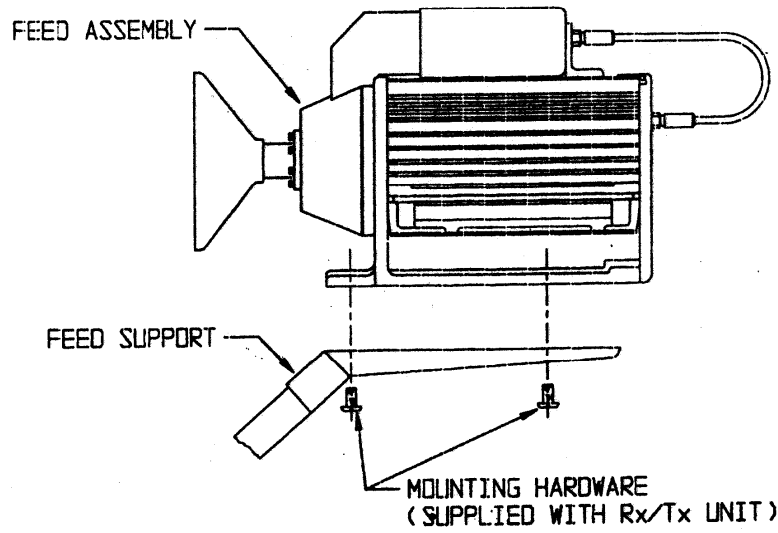

FIGURE 2
Step 2: Attach the completed feed assembly from step #1 to the matching holes in the feed support with the hardware provided with the Rx/Tx unit as shown in figure 2. Tighten completely.